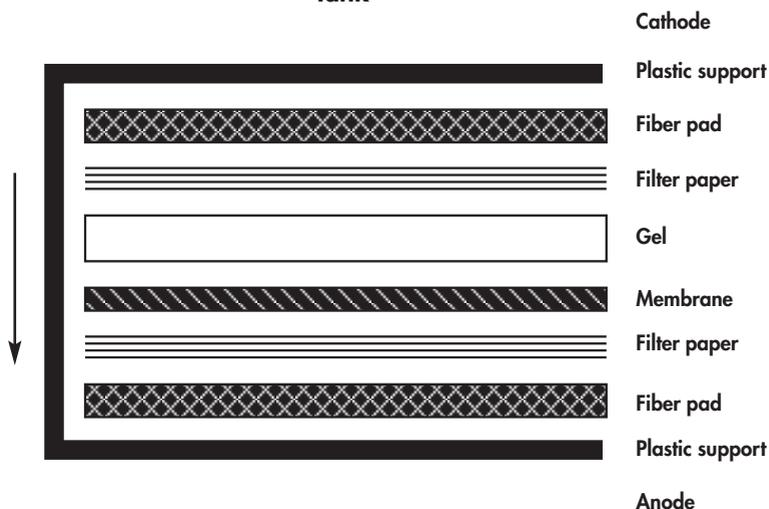

Figure 10. Schematic drawing of indicated blotting methods. Arrows show direction of transfer.
- 4. Avoiding air bubbles, place 4 sheets of filter paper on the cathode (negative, usually black), followed by the gel, the membrane, 4 sheets of filter paper, and finally the anode (positive, usually red). See Figure 10.**
- 4. Avoiding air bubbles, place 4 sheets of filter paper on the fiber pad, followed by the gel, the membrane, 4 sheets of filter paper, and finally the other fiber pad (see Figure 10).**